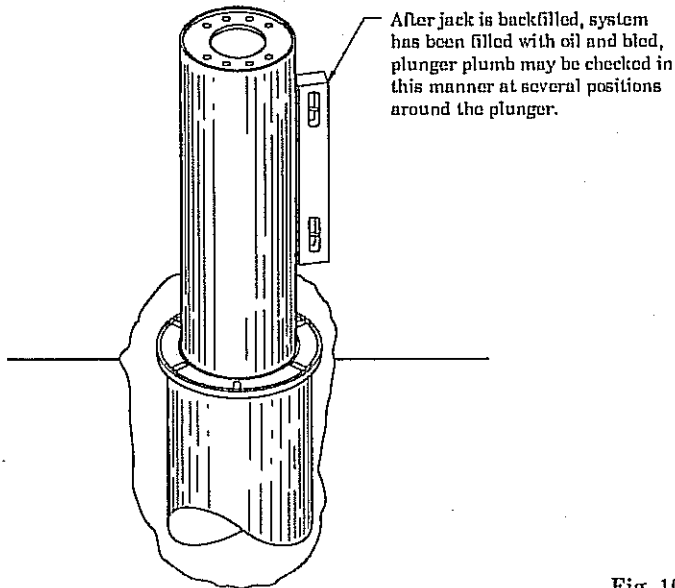

Fig. 10
9. **FINAL BACKFILL AND CONCRETE WORK:** Complete backfill to within 6" of top of jack protector ring. Backfill and tamp pipe trench. Check and straighten protector ring if dented during shipment. Make final elevation and plumb checks, Fig 10. Jack protector rings must be at floor level. Improper setting may cause lift lock to malfunction. Bend sling lugs down below finished floor level. Reinforce top of equalizer housing with wood spacers. Pour concrete floor, being careful not to run concrete into box or around packing gland. Trowel smooth and allow to harden.